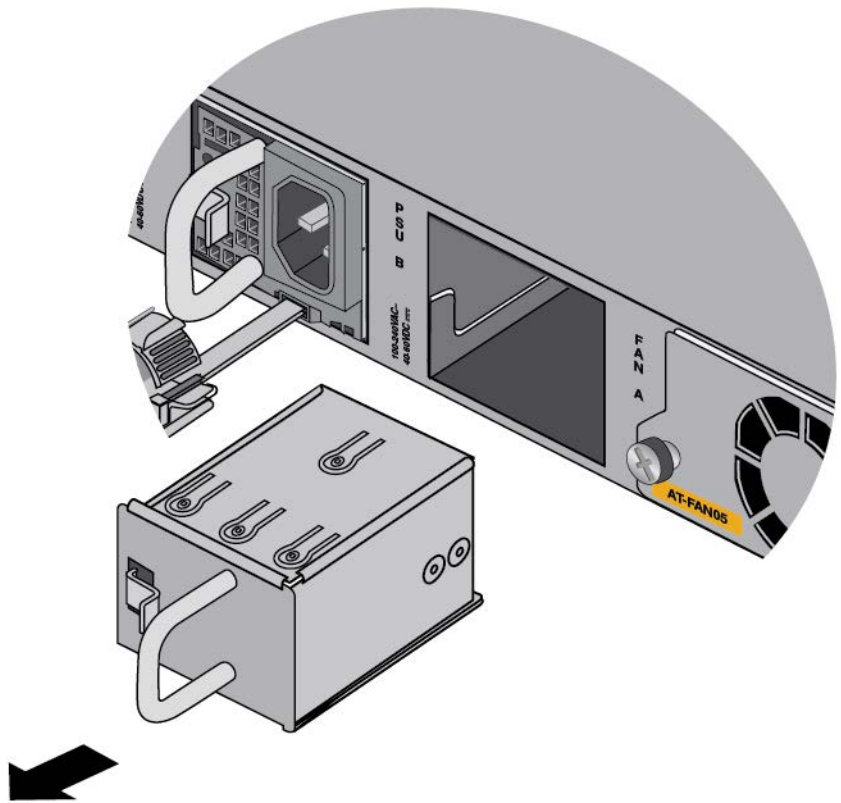

Figure 59. Removing the Blank Power Supply Panel from Slot PSU B
2. If there is already a power supply in PSU A, remove the blank panel from PSU B slot by pressing the release tab to the right and sliding the panel from the switch. Refer to Figure 59 on page 125.